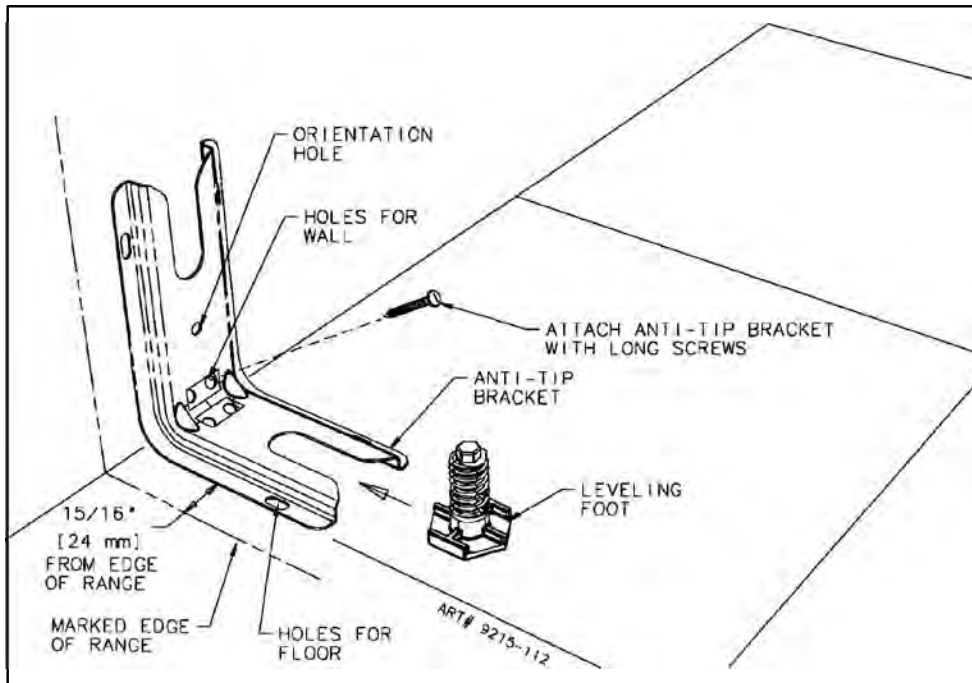
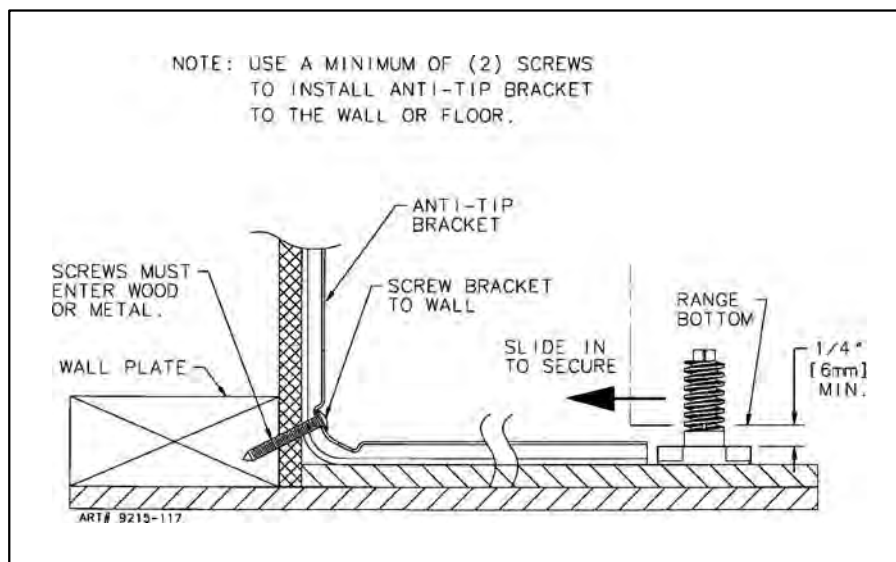

FIGURE 5
FIGURE 6
Install the bracket with the orientation hole in the longer leg against the wall as shown in figure 5.
STEP 1 - Locating The Anti-tip Bracket (See Figure 5)
- Place the BRACKET 15/16" (24mm) from the marked "EDGE" toward center of opening and against the back wall as shown in figure 5, with orientation hole against wall.
- Use the bracket as a template and mark the required holes, as shown in figure 5, for the type of construction you will be using.
1. Floor: Locate the center of the two holes identified in figure 5 as "HOLES FOR FLOOR." Drill a 1/8 (3 mm) pilot hole in the center of each hole (a nail or awl may be used if a drill is not available). Secure the ANTI-TIP bracket to the floor with the two screws provided. Proceed to STEP 3.
2. Wall: Locate the center of the two holes identified in figure 5 as "HOLES FOR WALL." Drill an angled 1/8 (3 mm) pilot hole in the center of each hole as shown in figure 6. (A nail or awl may be used if a drill is not available). Secure the ANTI-TIP bracket to the wall with the two screws provided as shown in figure 6. Proceed to STEP 3.
1. Suitable screws for concrete construction can be obtained at the hardware store. Drill the required size hole for the hardware obtained into the concrete at the center of the holes identified in figure 5 as "HOLES FOR FLOOR". Secure the ANTI-TIP bracket to the floor. Proceed to STEP 3.
- B. Align the range to its designated location and slide it back into position. Note: A minimum clearance of 1/4 (6 mm) is required between the range and the leveling foot that will engage the ANTI-TIP bracket, see figure 6.